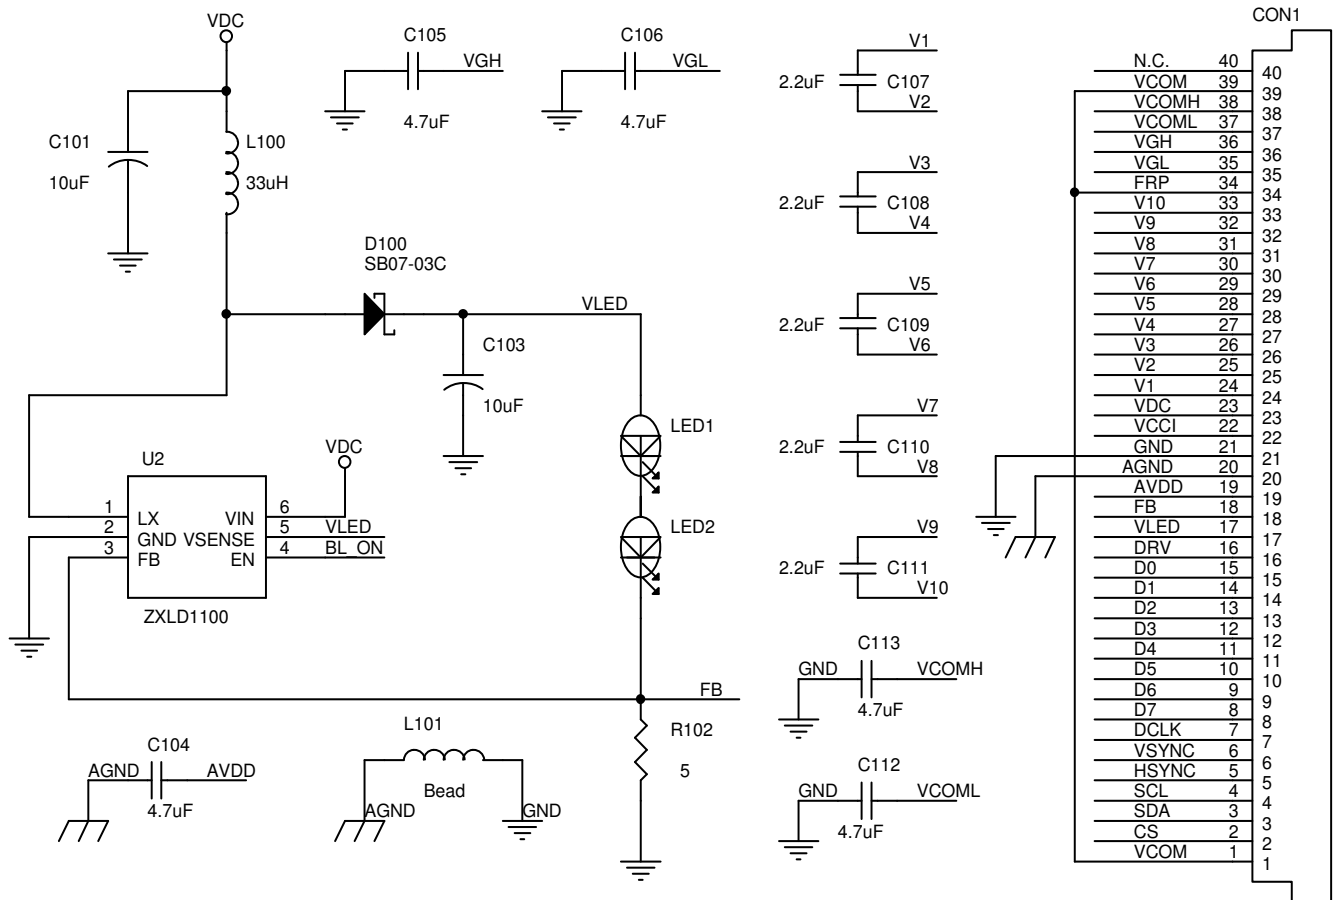
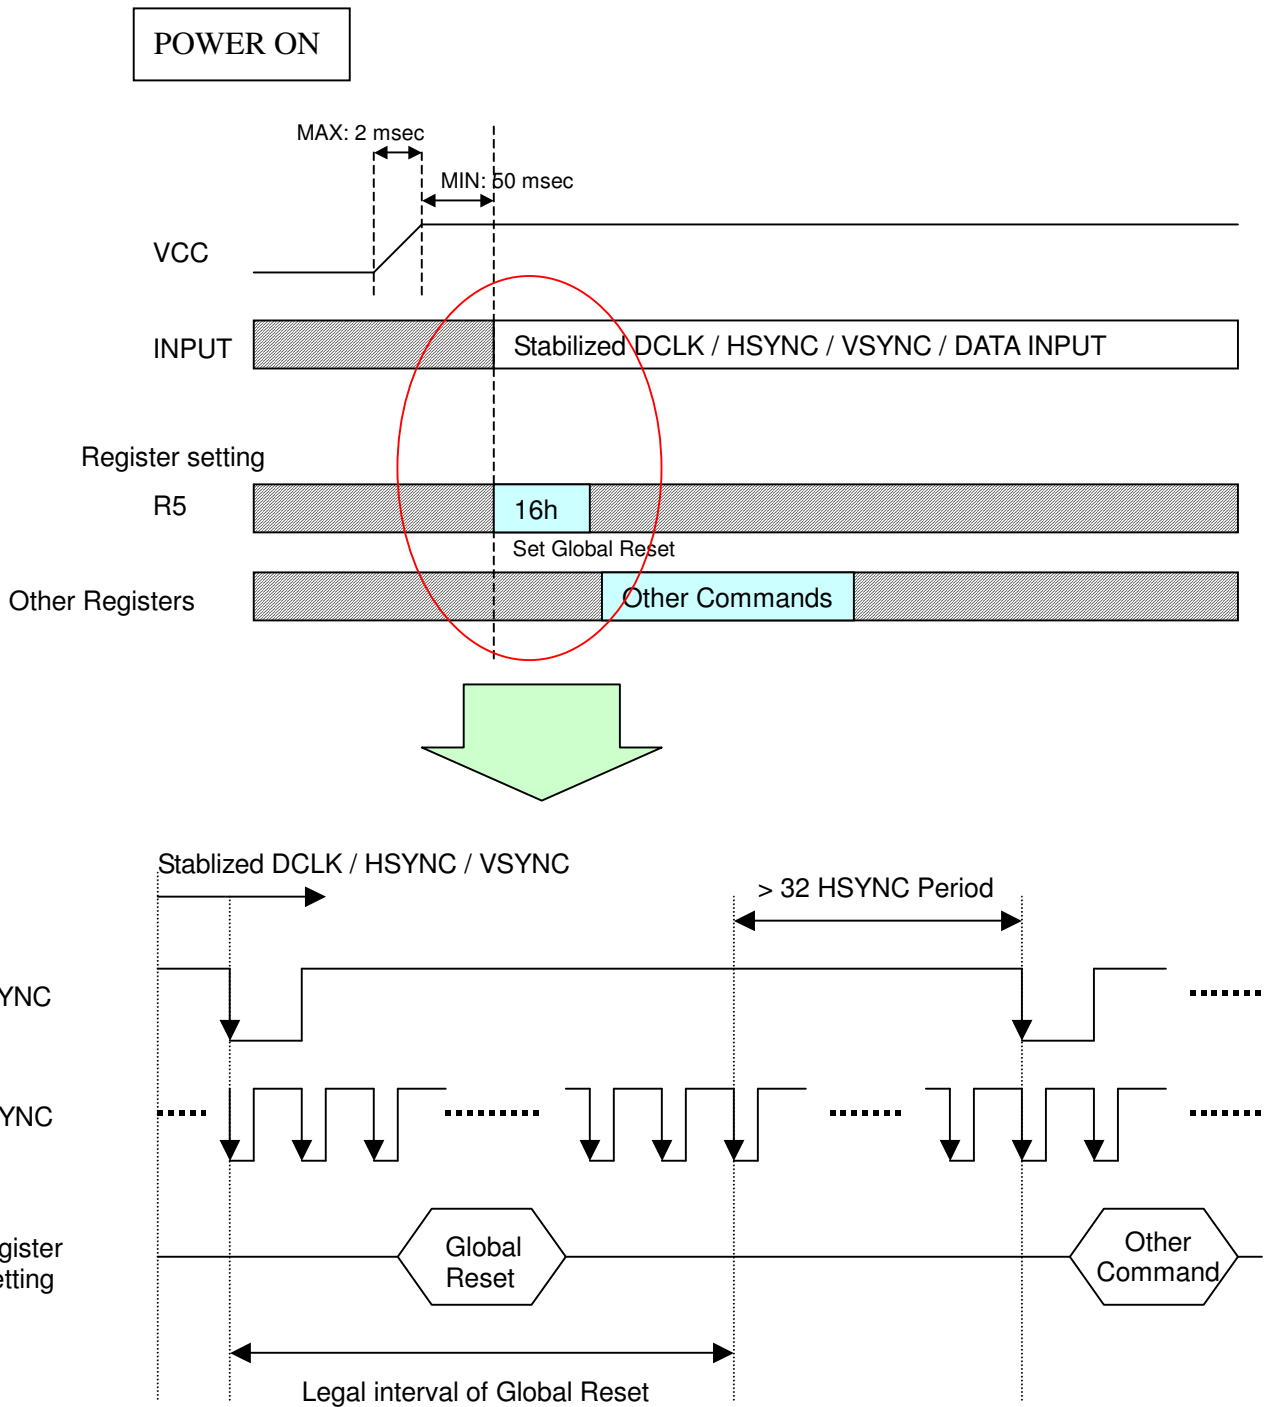

Fig.13 External LED driver Circuit
Fig.18 Valid Timing of Global Reset
See Fig. 13 for the application circuit.
According to Fig. 13, the LED driver(ZXL1100) and R102(5 ohm) with 0.1V feedback (FB) can provide a constant 20mA current for LED backlight unit. To control the back light on/off timing, user should create a control signal BL_ON (please refer to the ZXL1100 date sheet). The LCD driver output DRV signal can also be used to drive BL_ON, in the condition of fine tune the R102 value to get the desired LED current value.
After VDC/VCCI power on reset, VSYNC/HSYNC/DCLK/DATA can be input, and serial control interface is also operational. To ensure that panel can be lighted on successfully, the first step is setting global reset (register #5 "16(hex)") as the timing in Fig. 14. Then the LCD driver is in default standby mode after VDC/VCCI power-on, and setting register #5 bit #0 to high (STB=1) to disable the standby mode is required for normal operation. When the standby mode is disabled, a build-in power on sequence is started. The driver IC analog power AVDD is turned on first, and then the LCD positive and negative power supplies VGH/VGL are pumped, and followed by the LED power VLED. Since we recommend using external LED driver, the BL_ON signal (see Fig.13) should be provided at this time. Please refer to Fig.14 and Fig. 18 for the detail timing of power on/off sequence, especially the global reset timing in Fig. 18.